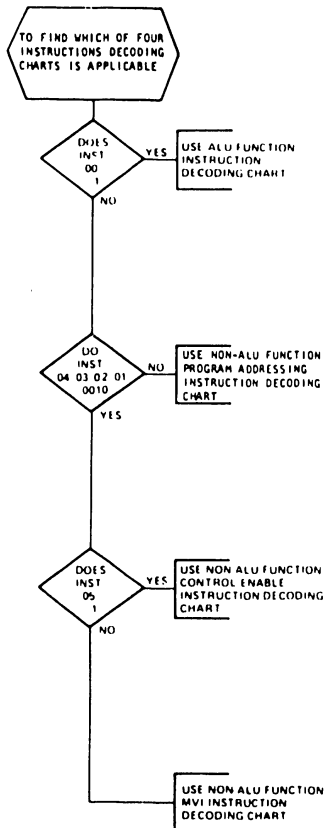

Figure 2-32. 20-Bit Processor CCA
The Processor CCA executes four (4) types of micro-instructions. The format of each instruction word defines which one (1) of four (4) types is to be performed. **Figure 2-32** diagrams the micro-instruction format for each of the following types:
1. ALU Functions - As shown in **figure 2-32**, signal INST00, when equal to one (1), indicates that an ALU function is to be executed. The ALU, U32 and U51 (SH 25), is capable of performing 16 logical and 16 arithmetical operations for a total of 32 functions. INST01, the mode control, indicates a logical function when high and an arithmetical function when low.
Each instruction specifying an ALU function must also control ALU data input and output lines. Inputs to the ALU are controlled by the Register Enable (INST0A through INST0E) and Device Enable (INST0F through INST13) segments of the instruction word. See **figure 2-32**.